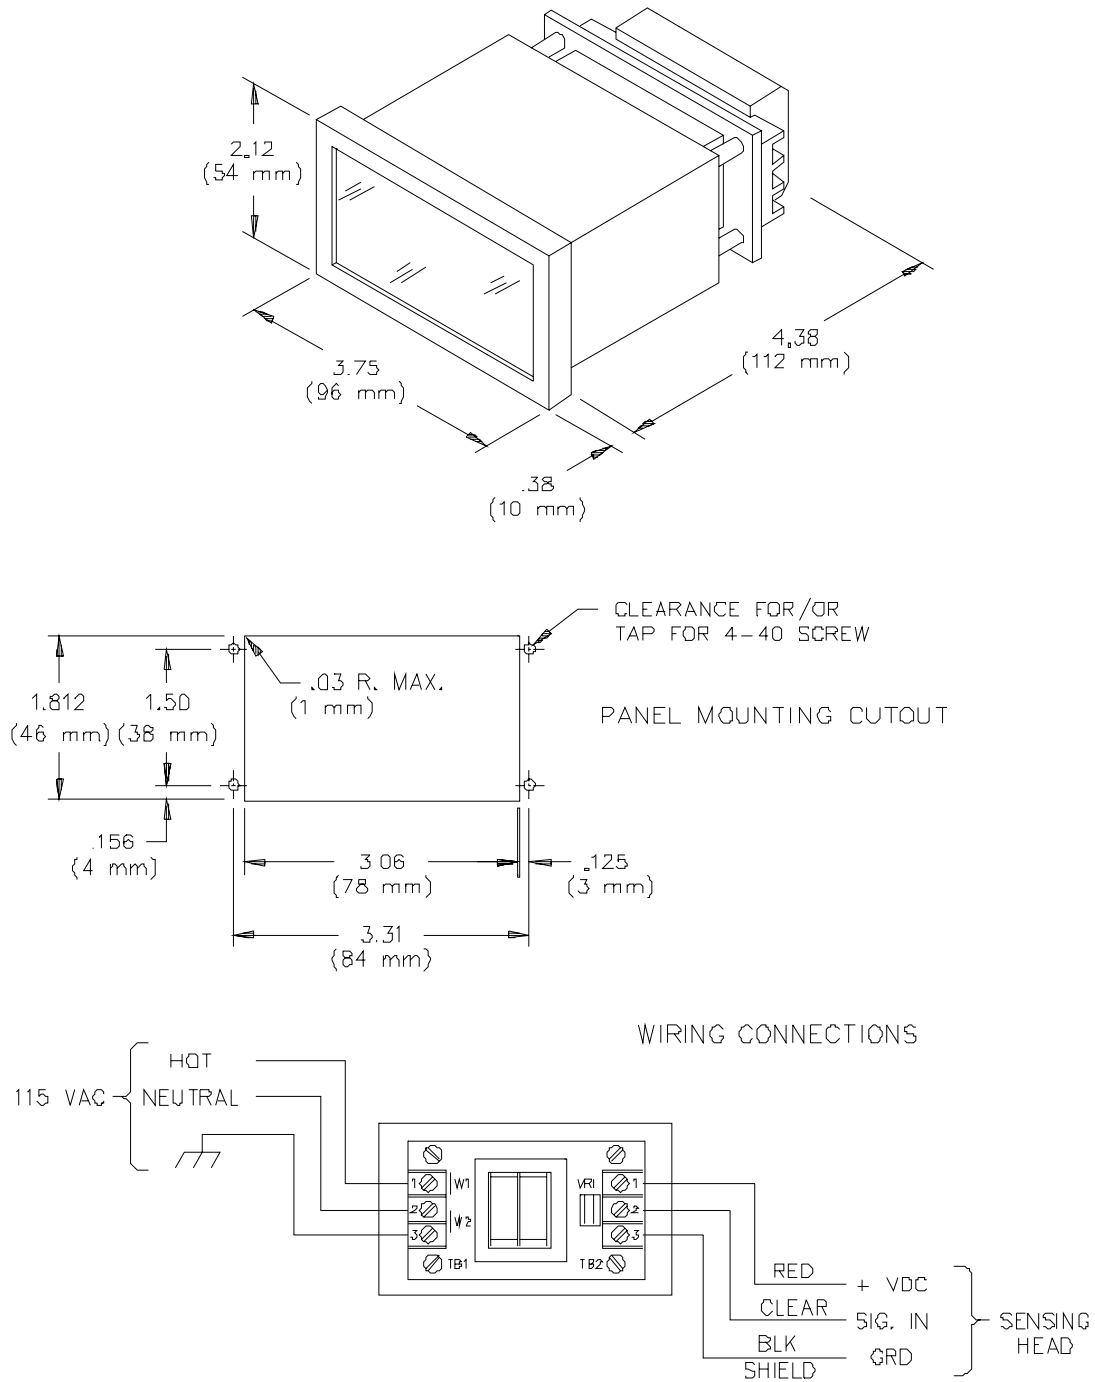

Figure 29: Tachometer Panel Meter [2003]
6. The digital meter **[2003]** is housed in a plastic case and designed for installation in a control panel designated suitable for non-hazardous areas. Ambient operating temperature range is 32° to 158°F (0° to 70°C). The input power required is single phase, 50/60 Hz, 115 VAC. See *Figure 29, page 52* for the wiring diagram and panel cut-out dimensions.